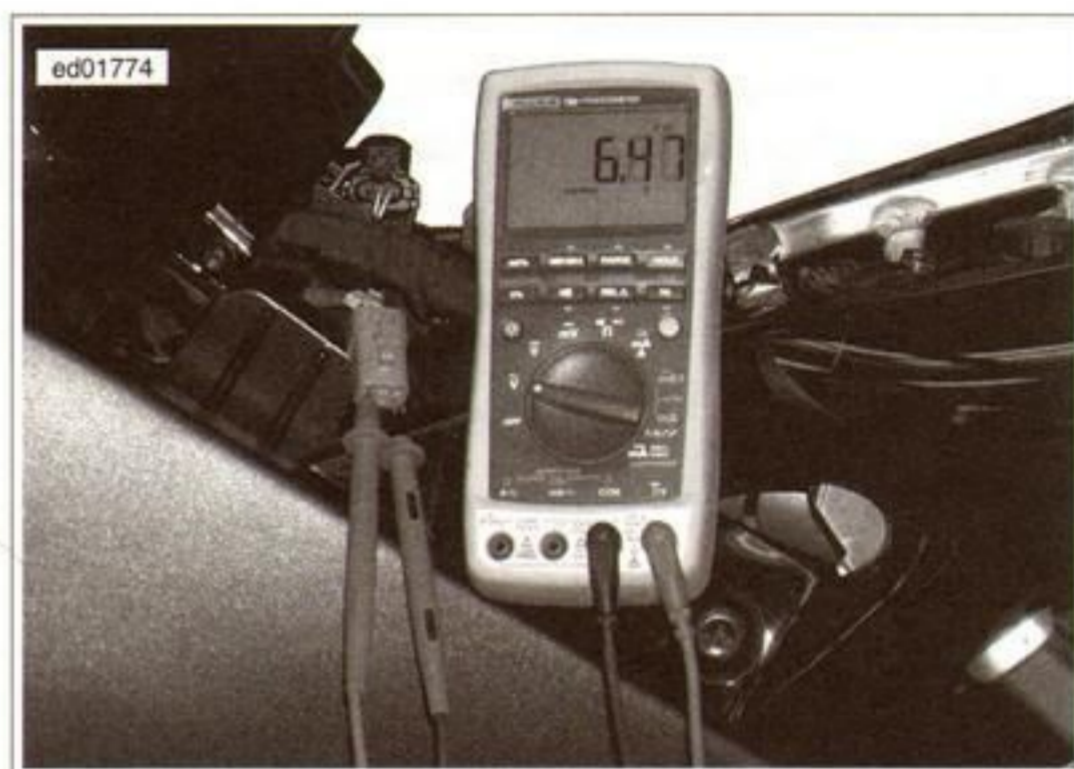

Figure 3-18. Check Stator AC Voltage Output (typical)
- b. See Figure 3-18. Connect an AC voltmeter across stator connector terminals 1-2.